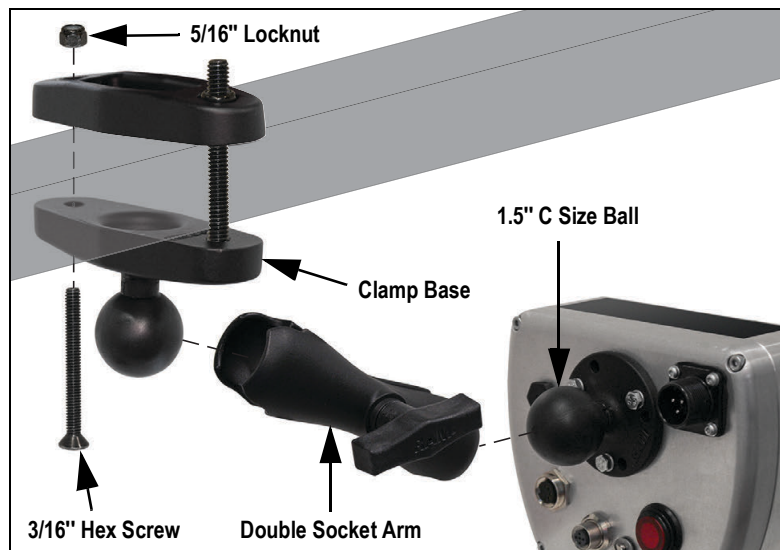

Figure 1. RAM Mounting Option
1. Secure the RAM mount clamp base with 1.5" C size ball to the forklift frame with two screws and locknuts. Tools needed for this step are a 1/2" wrench and a 3/16" hex key (Figure 1).